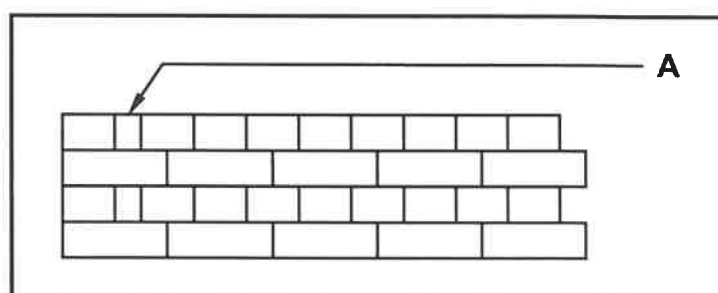

FIGURE 3.3
- 3.3 FIGURE 3.3 below is a drawing of a face brick wall. Study the drawing and answer the questions that follow.